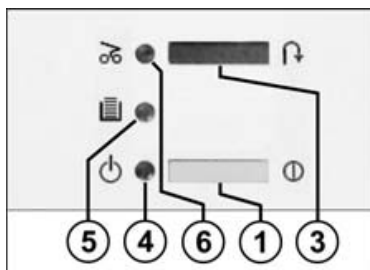

fig. 1
- 1 = Pushbutton switch „ready“ (fig. 1)
- 3 = Pushbutton switch "Off" / "reverse" (fig. 1)
- 4 = Pilot lamp "ready" (fig. 1)
- 5 = Pilot lamp "receptacle full" / "door open" (fig. 1)
- 6 = Pilot lamp "paper jam" (fig. 1)
- Turn machine on with pushbutton switch (1) (fig. 1). Pilot lamp lights up (4) (fig. 1).
- Place empty sack into receptacle and close door. The pilot lamp (5) (fig. 1) goes off.